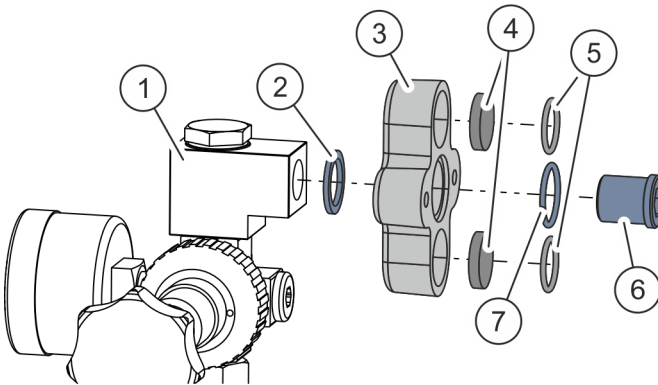

Fig. 14: Pressure controller
9.  Unscrew the fastening nipple (Fig. 14/6).
10.  Replace the seals (Fig. 14/2, 5 and 7).
11.  Remove the sound absorber (Fig. 14/4) from the valve adapter (Fig. 14/3) and check for wear. Replace it as necessary.
12.  Screw the new pressure controller (Fig. 14/1) in place with the fastening nipple (Fig. 14/6) as shown.